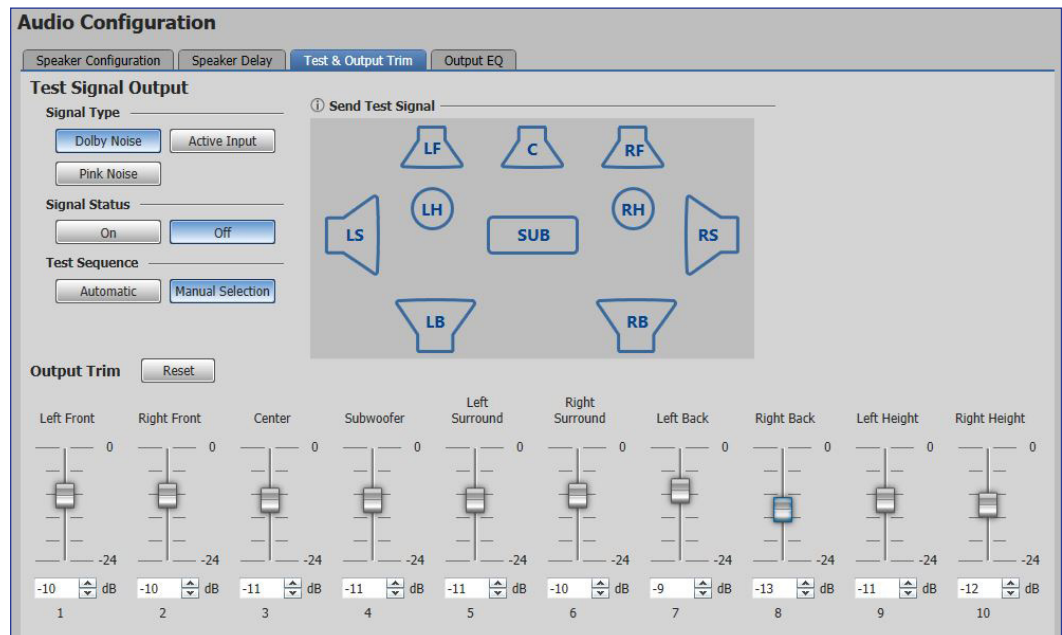

Figure 39. Test and Output Trim
3. Select **Active Input** on the **Test & Output Trim** tab (see figure 39 on the next page).
Click the **Test & Output Trim** tab to access the various output controls (see figure 39).